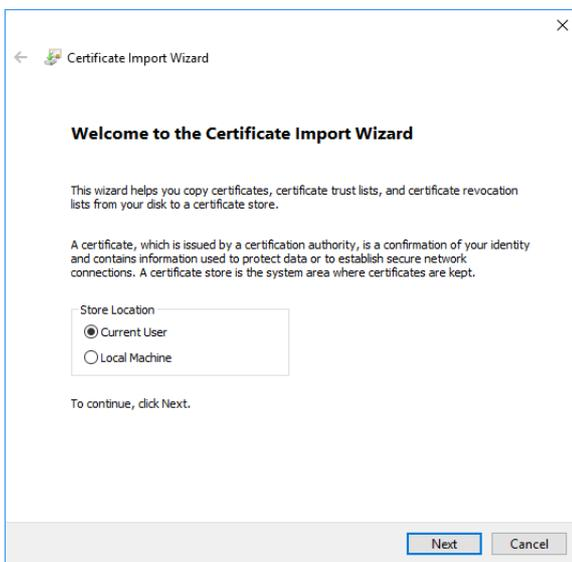

Figure 2-46. Certificate Import Wizard
4. Choose Current User, see Figure 2-46.